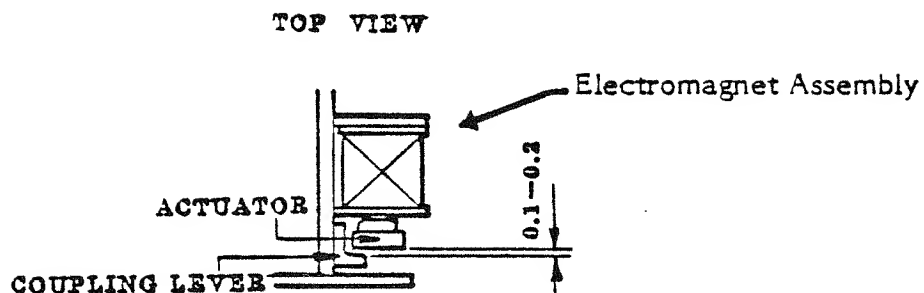

Figure 6-3. Actuator/Coupling Lever Adjustment
- Adjust the gap between the actuator and coupling lever to 0.1-0.2 mm (See Figure 6-3).